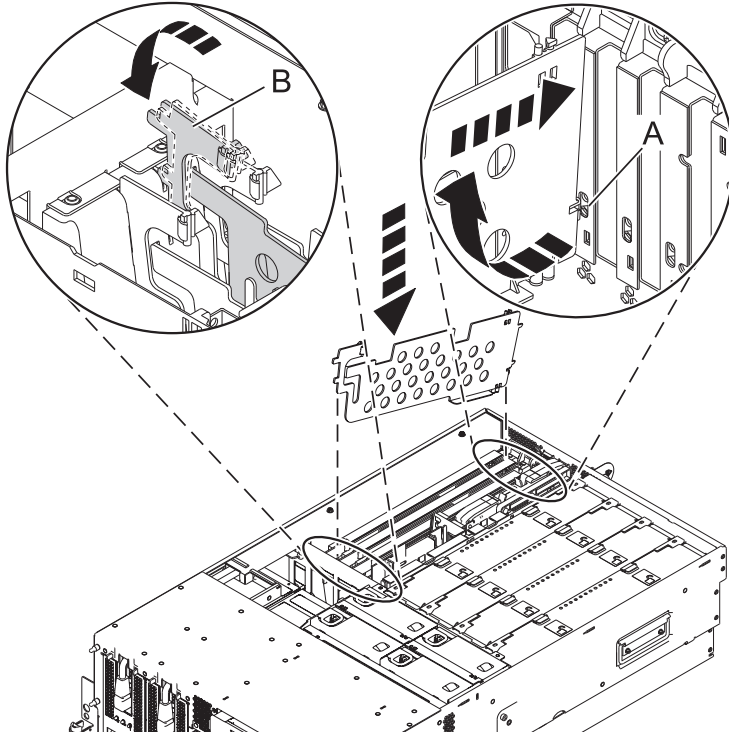

Figure 14. Installing the PCI adapter dividers
- a. Grasp the PCI adapter divider by its top edge and align the back edge of the divider with the retention notches **(A)** in the system chassis. See Figure 14 on page 19.